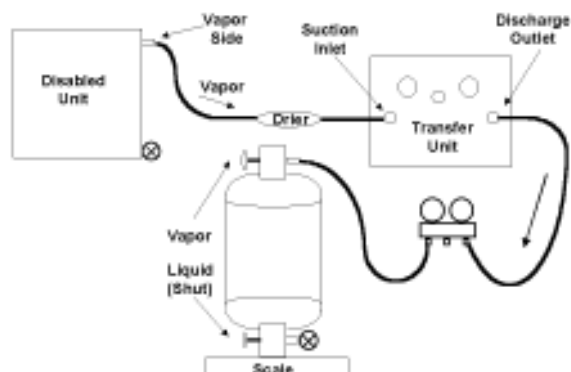

Figure 3: Vapor Recovery
- If performing vapor recovery, arrange hoses as indicated in Fig. 3.
- Use gauge set on vapor line to transfer hoses on recovery machine to configuration in Fig. 3.